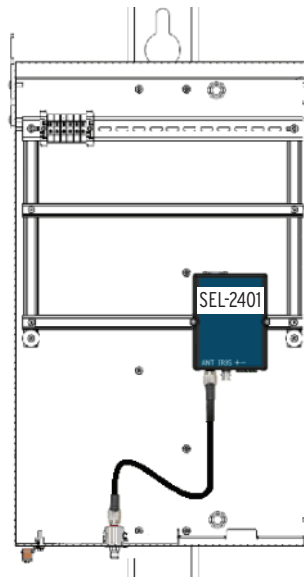

Figure 12 Install Antenna Cable
Step 17. Connect the antenna cable to the ANT terminal on the SEL-2401. Route the cable down to the bottom of the cabinet and attach the other end to the surge arrester. See *Figure 12*.